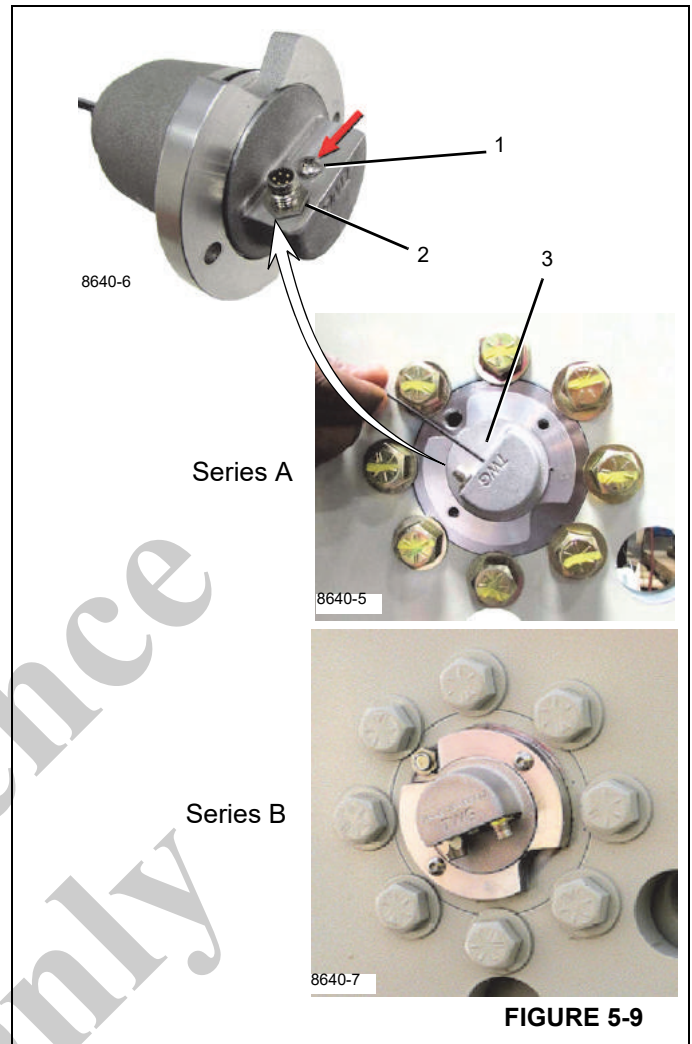

FIGURE 5-9
2. Remove power from the 3rd wrap indicator by disconnecting the DRI cable (2, Figure 5-9).
3. Remove the sealed Hoist Monitoring System (HMS) programming button cover screw (1, Figure 5-9) on the DRI.
4. Push and gently hold the programming button (3, Figure 5-9) and return power to the 3rd wrap indicator by reconnecting the DRI cable.
NOTE: Holding the button for longer than 15 seconds puts the HMS into Shipping Mode for Series A units.(See Figure 5-9). See Shipping Mode for more information.
NOTE: Failure to replace the programming screw (1, Figure 5-9) could effect the operation of the 3rd wrap indicator.
3. Remove the programming button cover screw (1, Figure 5-9).